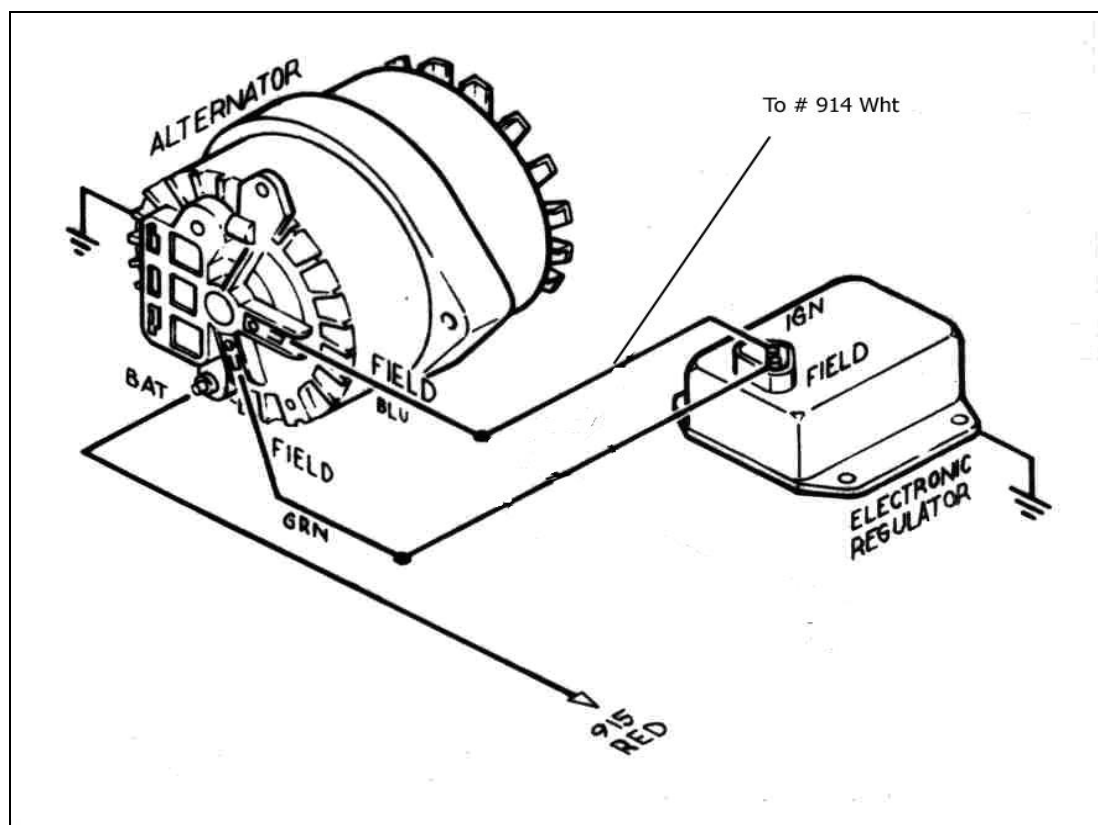

Figure 9-1 Mopar Alternator w/ Electronic Regulator
9.1 Mopar Alternator. See Figure 9-1
*Note: Your Alternator may not appear exactly as represented in **Figure 9-1**. The circuits are wired the same way, though.*
9.1.3 For an Electronic regulator, Connect ENGINE SECTION wire #914 (wht) to the Alternator Field (F) terminal. Connect ENGINE SECTION wire #915 (red) to the Alternator Output lug (**Figure 9-1**)
9.1.5 Connect a 14-gauge wire from the other Alternator Field terminal (as shown in **Figure 9-1**) to the second terminal of the ELECTRONIC Voltage Regulator OR terminal (F) of the MECHANICAL Voltage Regulator. On existing Mopar harnesses, this would be a green wire.